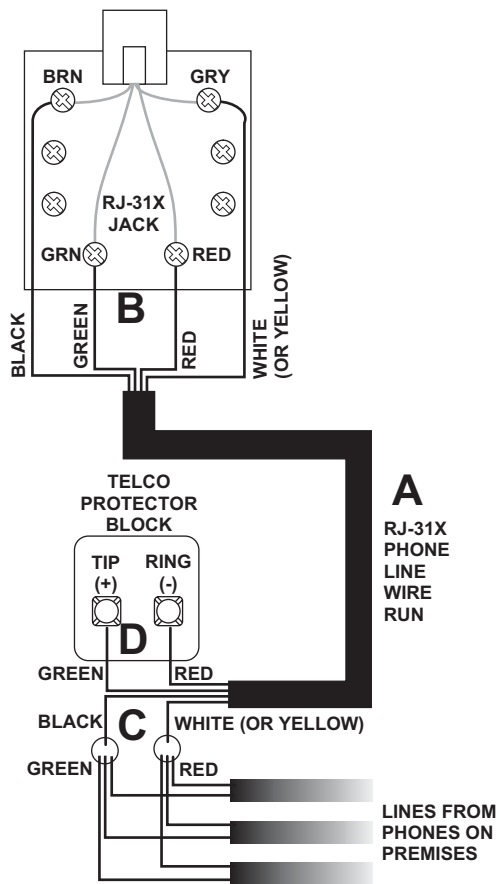

Figure 19. Installing an RJ-31X Phone Jack
1. Run a 4-conductor cable from the TELCO protector block to the jack location (see [A] in Figure 19).
2. Connect one end of the cable to the jack (see [B] in Figure 19).
3. At the TELCO protector block, remove the premises phone lines (lines from phone jacks on premises) from the block and splice them to the black and white (or yellow) wires of the 4-conductor cable (see [C] in Figure 19).
4. Connect the green and red wires from the 4-conductor cable to the TIP (+) and RING (-) posts on the block (see [D] in Figure 19).